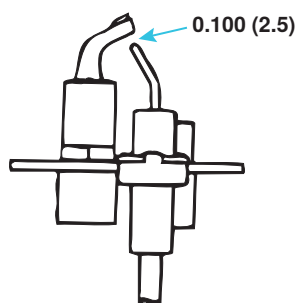

Figure 32. Pilot Spark Gap
- c. Verify that pilot spark gap (see **Figure 32**) is approximately 0.100 inch (2.5 mm).